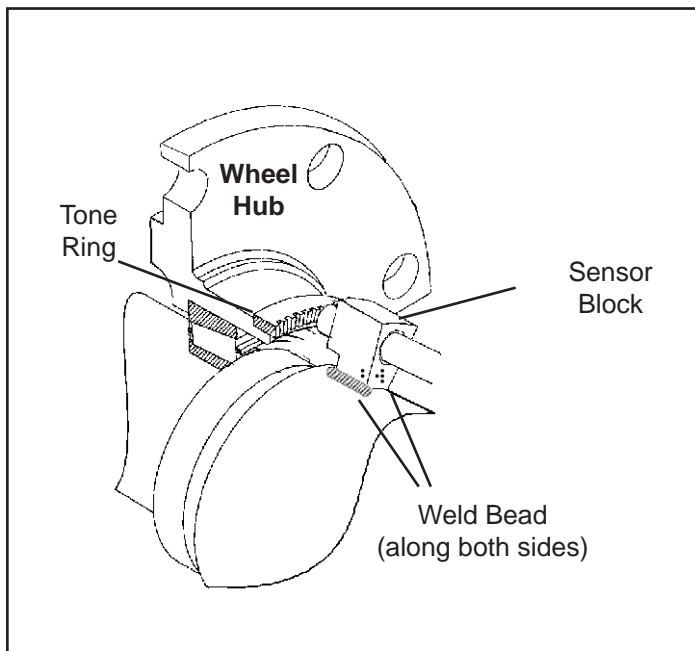

FIGURE 13 - SENSOR BLOCK ALIGNMENT ON AXLE
2. Insert the sensor block placement tool into the block/clip assembly. See Figure 13. Adjust the amount that the placement tool protrudes past the sensor block face so that a gap of 0.125" to 0.187" will be achieved between the sensor mounting block face and the tone ring teeth.
3. Secure sensor mounting block to the desired position on the axle by applying the magnetic tip of the sensor block mounting tool directly to the tone ring teeth. See Figure 13. Verify that the mounting block is squarely positioned relative to the tone ring face and the axle.
Speed sensors are properly adjusted by gently pushing (not striking) the sensor into the clip until it makes contact with the face of the tone ring. See Figure 13. The wheel speed sensor will automatically adjust as the wheel rotates. If rotating the wheel causes a gap of 0.020 in. or greater, check for excessive wheel bearing play or tone ring run-out. Proper wheel speed sensor installation is critical to proper ABS operation.